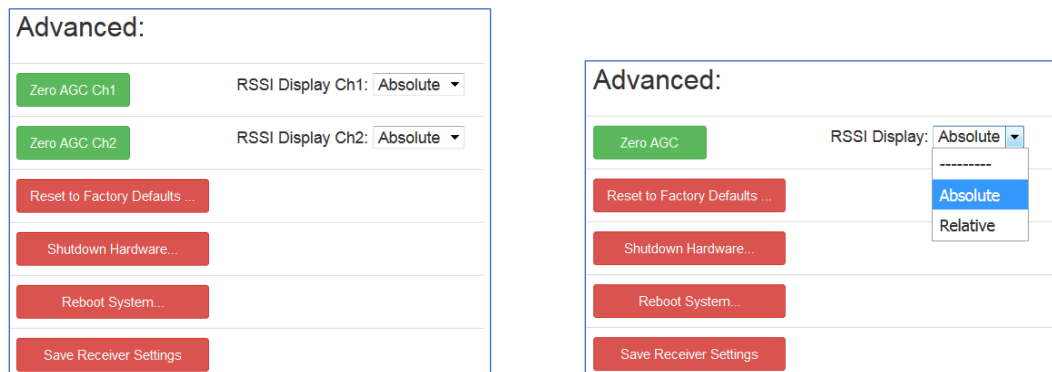

Figure 252: Advanced Buttons, Zero AGC Button, Separate Channels or Combiner Active
Automatic Gain Control (AGC) may be set to zero (0) by clicking on the green Zero AGC button in the Advanced section, shown in Figure 252. One or two buttons are available depending on the number of channels and the combiner mode.
The RSSI display has two modes depending on the option selected in the RSSI Display drop down menu, shown in Figure 252.